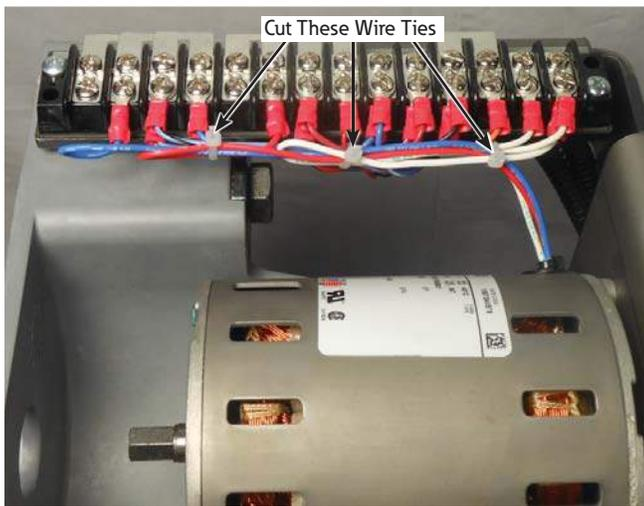

Figure 104. Removal of wire ties
3. Use diagonal cutters to cut the wire ties from the motor wires. See Figure 104.